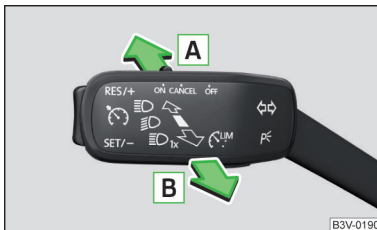

Fig. 51
- > To **turn on** the system, push the control stalk into the sprung position **A** » Fig. 51, the warning light  illuminates in the display of the instrument cluster
- > To **turn off** the automatically switched on main beam, push the control stalk into the sprung position **B**, the » Fig. 51 warning light  expires.
- > To **manually switch on** the main beam, push the control stalk into the sprung position **A** » Fig. 51, the warning light  expires.